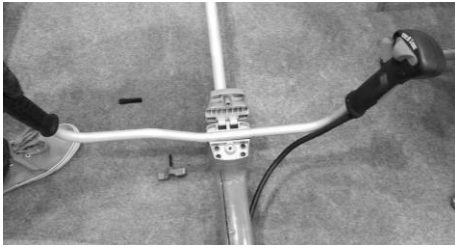

Fig. 2
- Remove the wing bolt to open the handle bracket (4).
- Attach the bullhorn handle assembly to the bracket, ensuring the handles point upward (see Fig. 2).